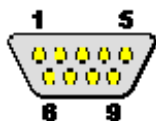

Figure 4-33: Serial Communications Connector Pinout Locations
- CN Pinouts: See **Figure 4-33** and **Table 4-33**